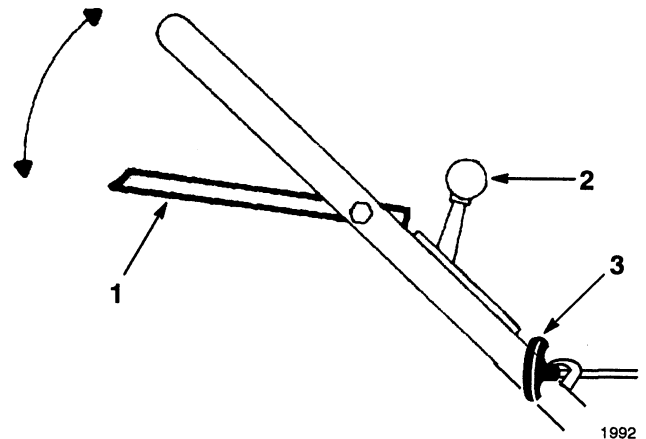
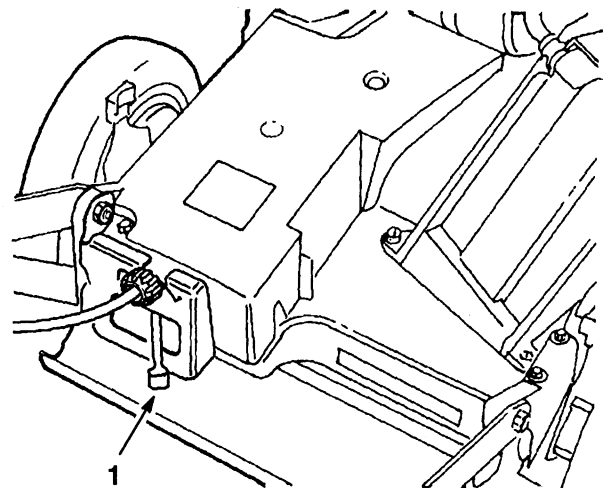

Figure 7
Figure 8
1. **CONTROLS**—Throttle control, control bar, and fingertip starter are on upper handle (Fig. 7).
3. **STARTING**—Move ground speed control to  **NEUTRAL** (Fig. 8) and throttle to  **CHOKE**. Lift the control bar to handle and hold. Pull fingertip starter out until positive engagement results; then pull vigorously to start the engine. When engine starts, move throttle to  **FAST** (Fig. 7). Allow the engine to warm-up. During warm-up, the equipment can be operated.